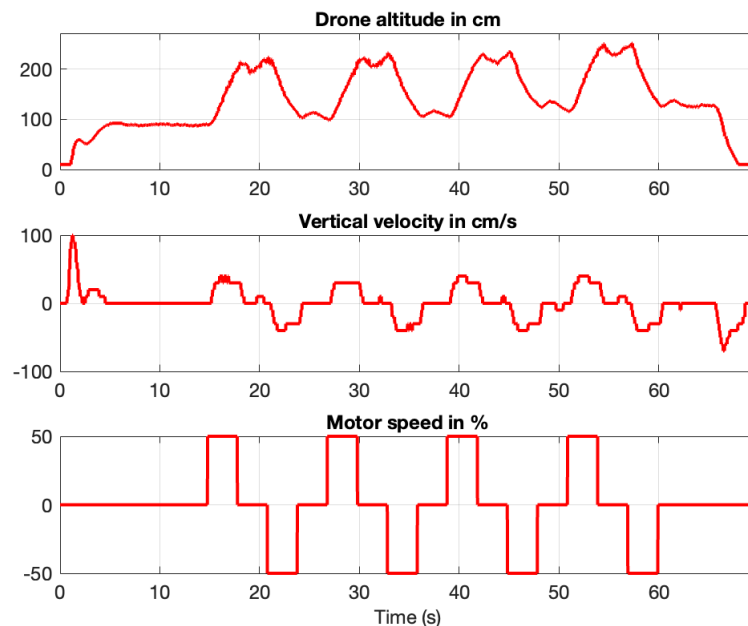

Figure 3.10: Vertical position and velocity responses of the mini-drone to a square wave input
This experiment is carried out in open-loop/manual mode, i.e. there is no feedback control to the altitude. As the system is marginally stable (due to the pure integrator in the model ??), the input command should be designed with special care. As shown in Figure 3.10, the input command is a square wave input (a series of positive and negative steps) around a working operating point (a given altitude here). The duration of each step should be carefully chosen so that the drone vertical position increases and decreases of about 30 cm without hitting the ceiling.
1. Open Matlab and execute the `data0L_plot.m` file to get a plot similar to Figure 3.10.